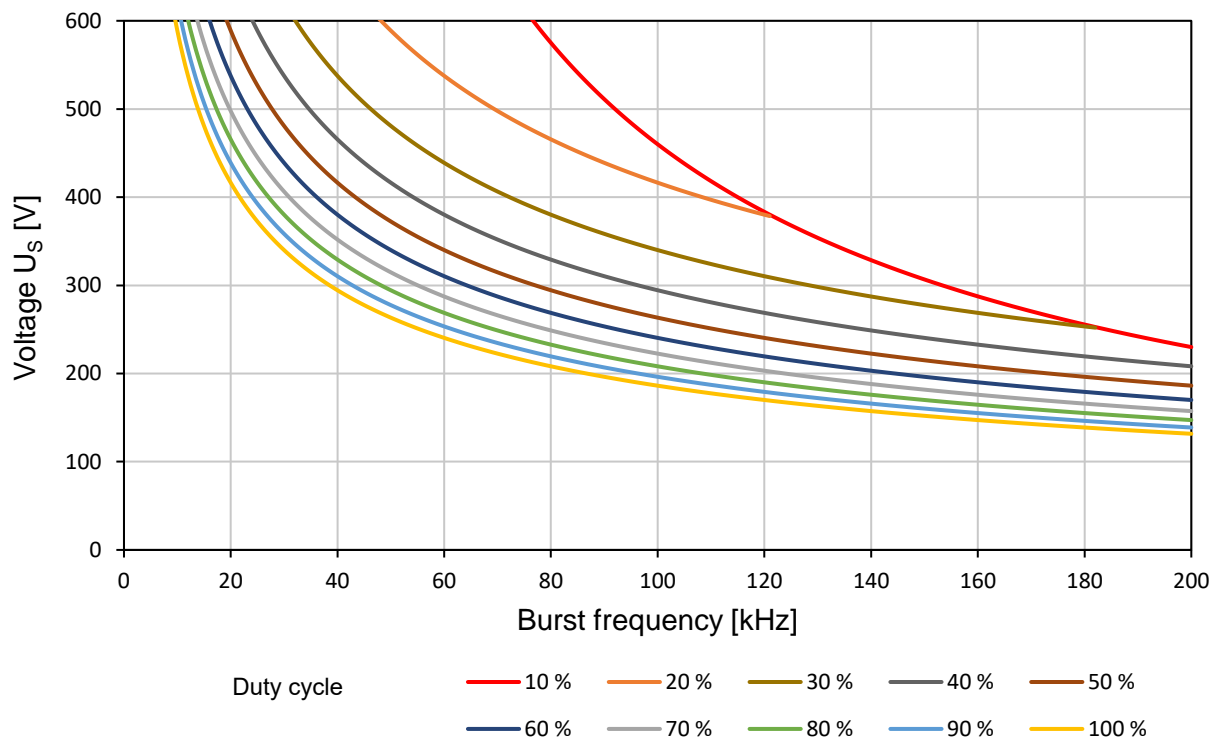

Fig. 17: Voltage as a function of the burst frequency
Burst pulses can be generated with variable frequencies, durations, amplitudes and duty cycles. The duty cycle of a burst is defined as  $\frac{t_4}{t_4+t_5}$ . Figure 17 shows the maximum voltage as a function of the burst frequency for different duty cycles.
- 2) Value depends on the duty cycle, see Figure 17